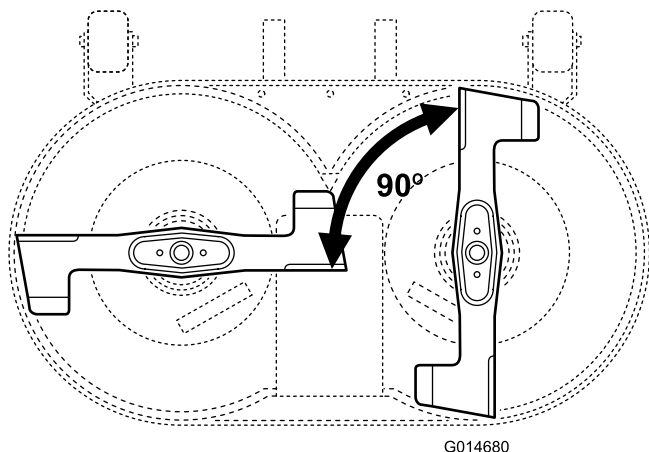

Figure 42
2. Position the blades 90 degrees to each other (Figure 42).